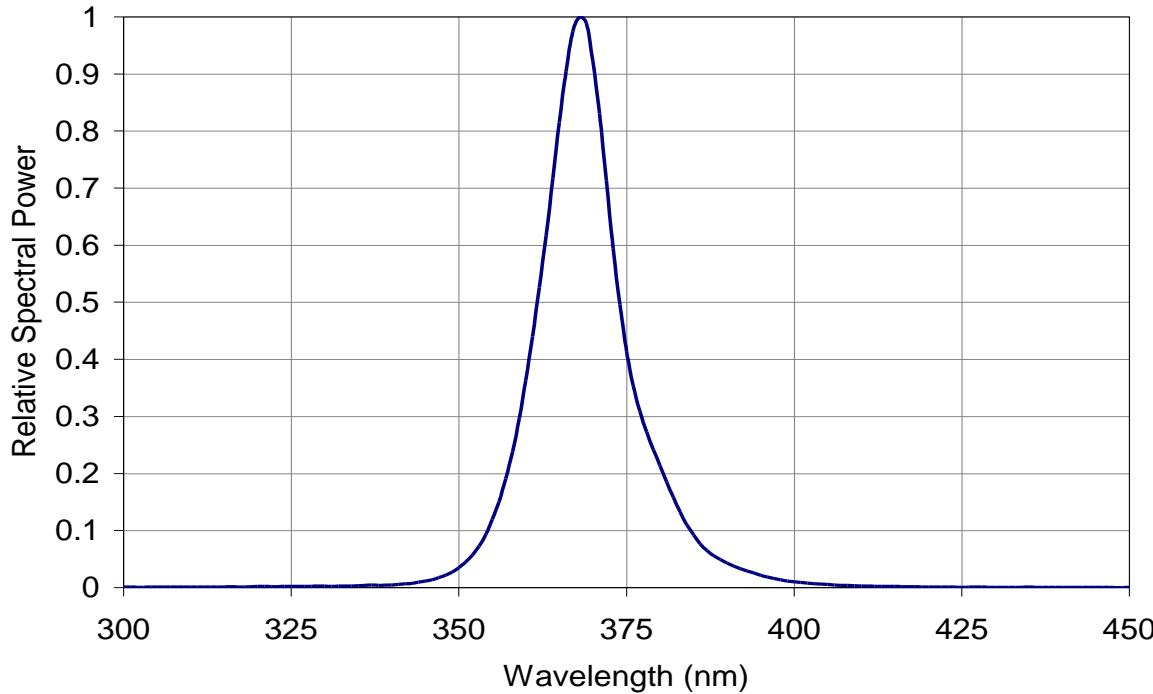

Figure 5: Typical relative spectral power vs. wavelength @ $T_c = 25^\circ\text{C}$
4. Solder conditions per JEDEC 020D. See Reflow Soldering Profile Figure 5.